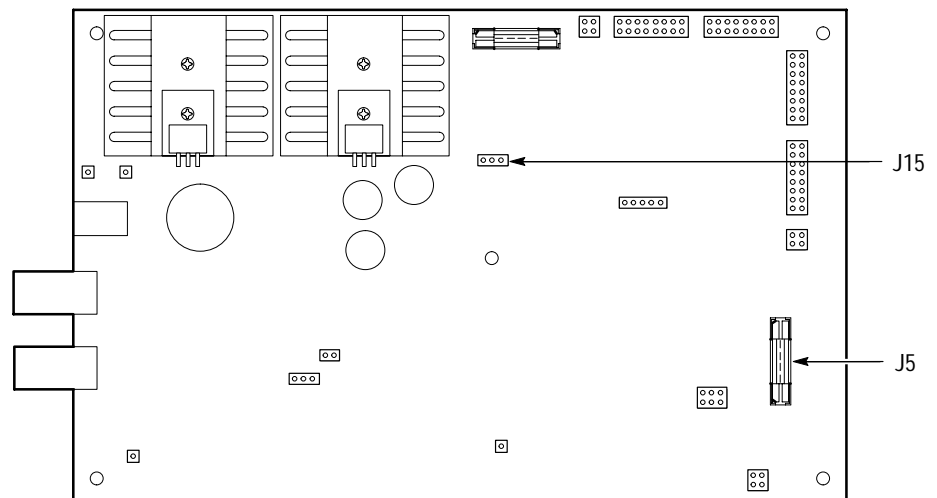

Figure 18: Jumper and connector locations on the test fixture
3. Place J15 in the INT position to select the internal 50 MHz clock. Figure 18 shows the location of the jumper.
10. Align pin 1 and connect the probe tip for the A probe to J5 on the test fixture. Figure 18 shows the location of the connector.